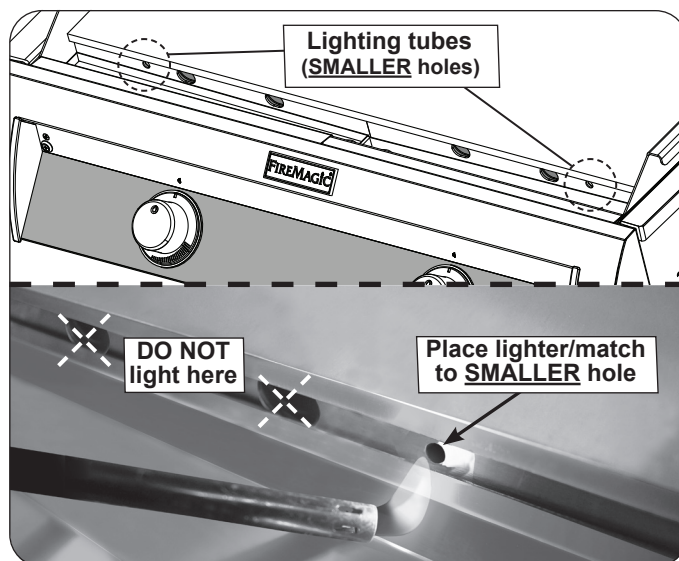

Fig. 37-3 Manual lighting
2. Hold a burning long-barrel butane lighter or burning long-stem match up to the opening of the lighting tube (**SMALLER** hole) **for 5 seconds**. Then depress the appropriate control knob and while pressing turn it counterclockwise to the **HI LIGHT** position. Remove the lighter or match when the burner lights, and release the control knob. See Fig. 37-3.